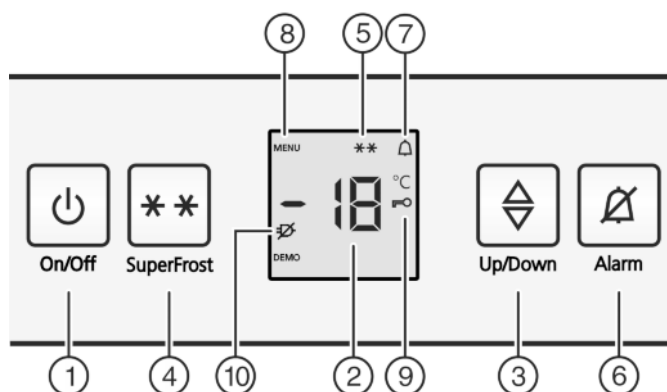

Fig. 2
- Press the On/Off button *Fig. 2 (1)*.
- Activate setting mode: press the SuperFrost button *Fig. 2 (4)* for approx. 5 seconds.
- ▷ The Menu symbol *Fig. 2 (8)* is shown on the display.
- Briefly confirm with the SuperFrost button, *Fig. 2 (4)*.
- ▷ The child lock symbol *Fig. 2 (9)*, lights up on the display.
- Briefly press the On/Off button *Fig. 2 (1)*.
- ▷ The child lock symbol *Fig. 2 (9)* goes out.
- ▶ Briefly press the On/Off button *Fig. 2 (1)*.
- ▶ Press alarm button *Fig. 2 (6)*.
The temperature display and the alarm symbol *Fig. 2 (7)* flash at the same time.
The audible alarm is automatically silenced, the alarm symbol *Fig. 2 (7)* goes out and the temperature display stops flashing when the temperature is sufficiently cold again.